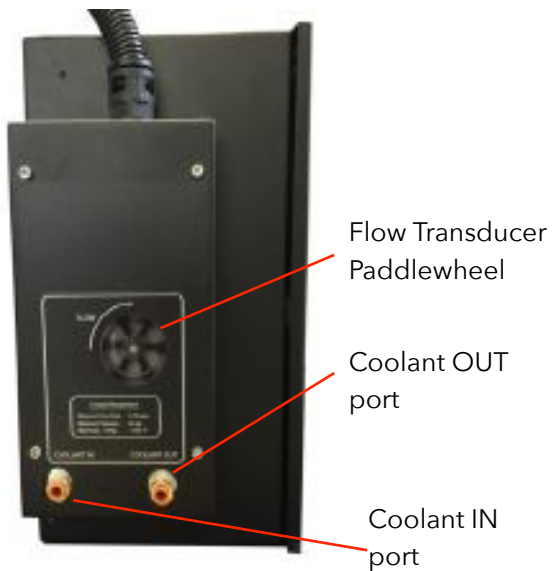

Fig. 10
5.1. The coolant tubing must be connected to the ports as shown in Fig 10 . If the supply lines are reversed, the paddlewheel will spin counterclockwise and the Coolant light will not turn off.